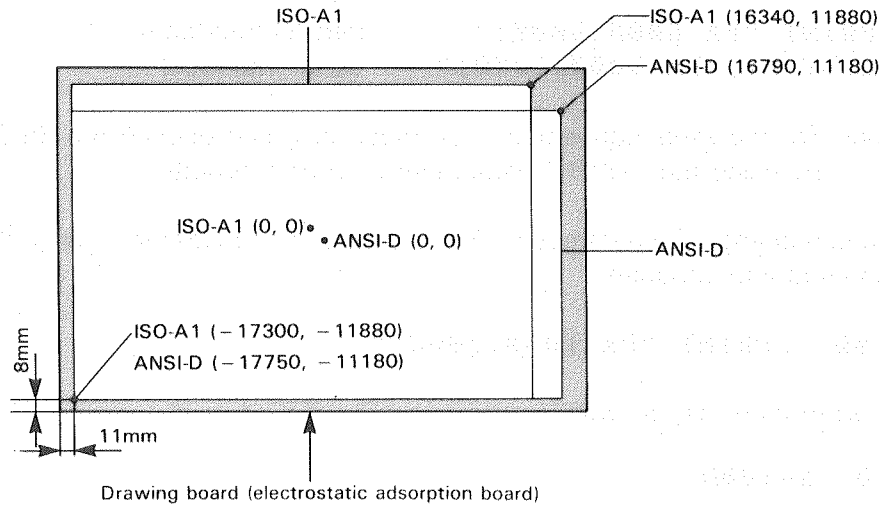

Fig. 6-4
As shown in Fig. 6-4, the coordinate system has X-axis for the horizontal direction and Y-axis for the vertical direction. And it indicates the coordinate values of X-axis and Y-axis like (1000, 2000) when indicating one specific point on the plane surface.
The maximum plotting area (whole area in which drawing can be done) varies from a plotting paper to another. ANSI-D and ISO-A1 in Fig. 6-4 represents the sizes of plotting papers. Switching these paper sizes can be done by setting the DIP Switch 1-⑦. (For more information, see 10.1 "LIST OF DIP SWITCH SETTINGS" in CHAPTER 10.) The maximum plotting area is the same as the sizes of each paper as shown in Table 6-1, and drawing can be done over the entire paper area.
As shown in Fig. 6-4, the plotting area varies in size from a paper to another.